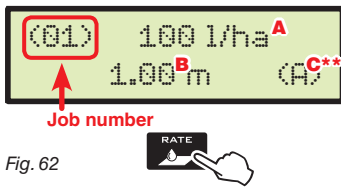

Fig. 62
- Press **OK** to automatically pass to the setting screen of the other parameters (Fig. 62).